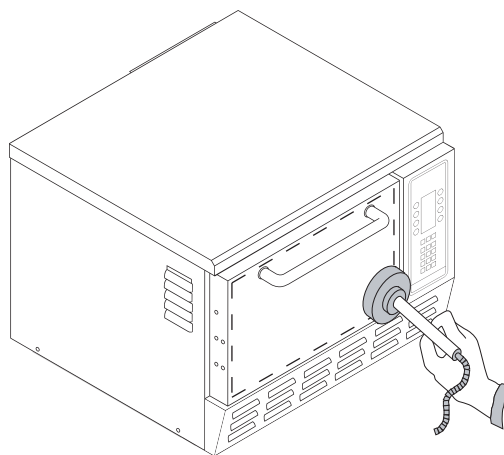

FIGURE 23: Microwave Survey Meter Placement
3. Position the microwave survey meter as shown in Figure 23.